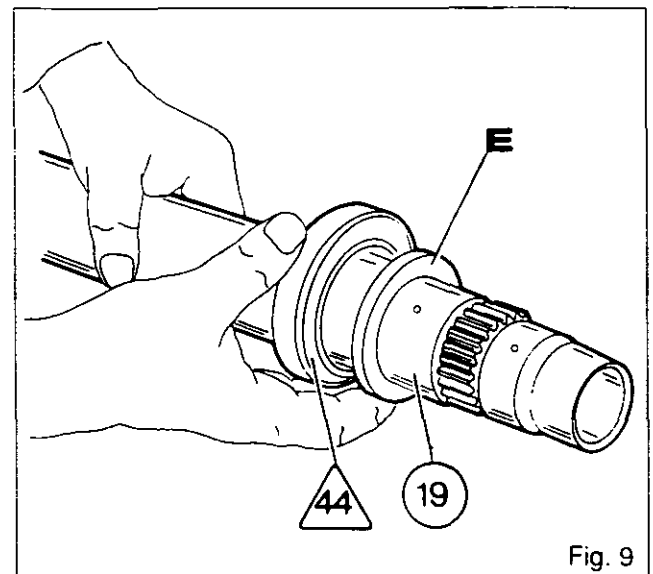
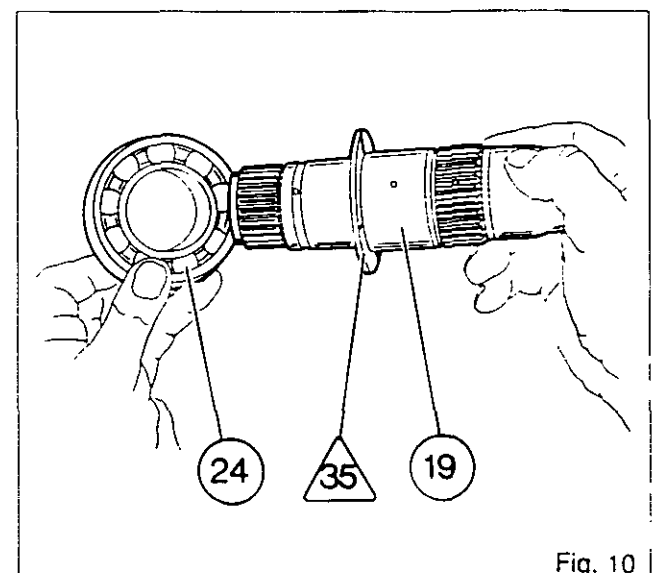

Fig. 9
Fig. 10
35. Press bearing /24\ on until tight against washer /35\ with a press and a suitable press tool (units with speedshift) (Fig.9).
36. Press bearing /44\ on until tight against shoulder E on shaft (19) with a press and a suitable press tool.
**N.B.: The sealed side of the bearing should face towards shoulder E (units without speedshift) (Fig.10).**